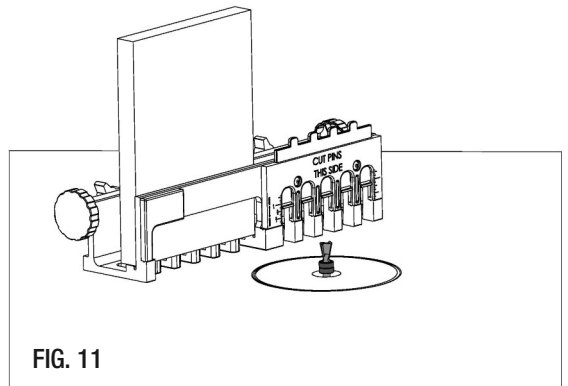

FIG. 11
6. Clamp the board to a workbench or secure it in a vice as shown (FIG. 10) or if using a router table, make sure the face saying “cut tails this side” is faced to the router table (FIG. 11).